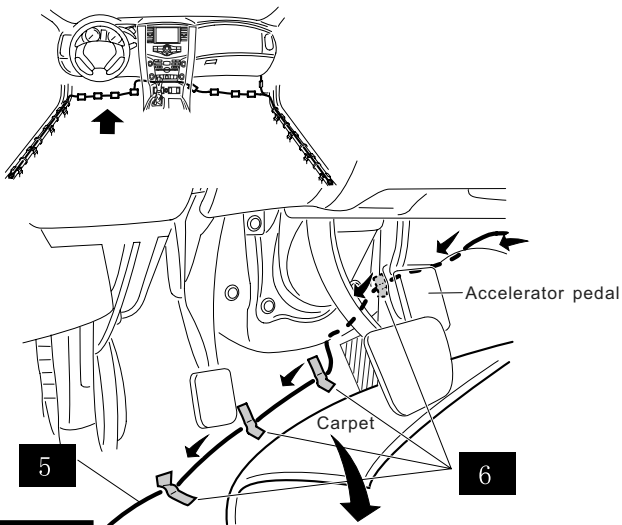

Fig.15
- (9) Flip the carpet of driver side.
- (10) Route the long Harness under accelerator pedal bracket, and route the long Harness at the bottom of foot rest. Shown in Fig.15.
- (11) Attach the long Harness **5** to floor using the Flat Wire Protector **6**. Shown in Fig.15. (4 pieces)